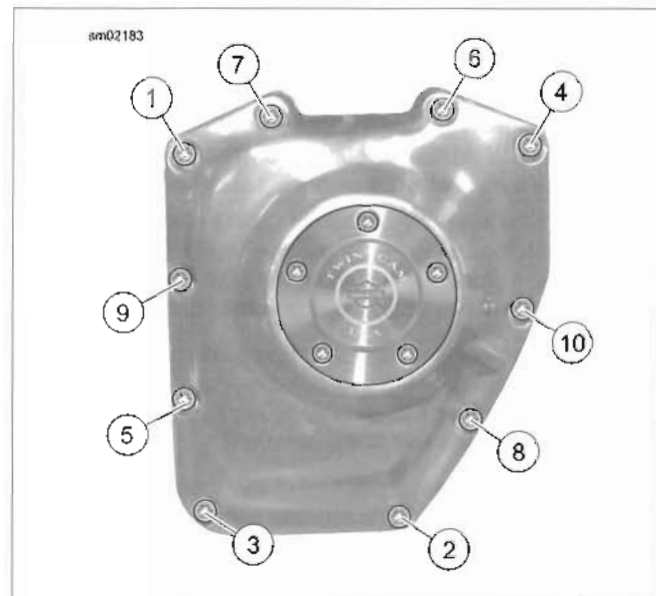

Figure 3-116. Cam Cover Screws
17. See Figure 3-116. Secure cover with socket head screws. Following the sequence shown, tighten the screws to 125-155 in-lbs (14.1-17.5 Nm).